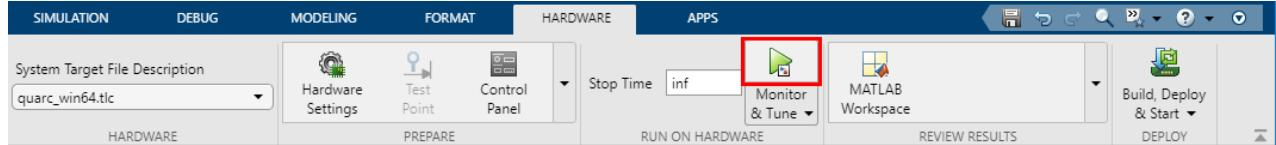

Figure 13: One step process for code generation, code deploy and Run Simulink (QUARC+QCAR) Model in External Mode
- To build, download, connect, and start the model for real-time external operation, click the Monitor Tune button on the HARDWARE tab (see Fig.13)